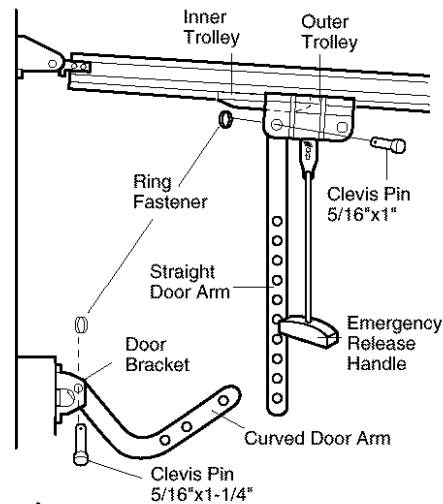

Figure 1
- Mark and drill 5/16" (0.78 cm) left and right fastening holes. Secure the bracket as shown in Figure 1 if there is vertical reinforcement.
- Make sure garage door is fully closed. Pull the emergency release handle to disconnect the outer trolley from the inner trolley. Slide the outer trolley back (away from the door) about 2" (5 cm) as shown in Figures 1, 2 and 3.
#### • Figure 1: